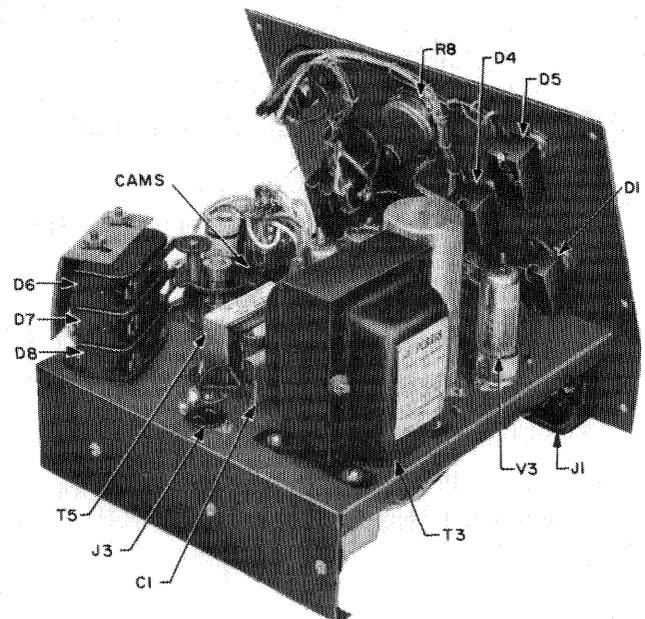

Fig. 4 — List 4 Top Assembly (List 2 is Similar)
6.01 Fig. 4, 5, and 6 are provided as an aid in clearing troubles in the list 2 unit.